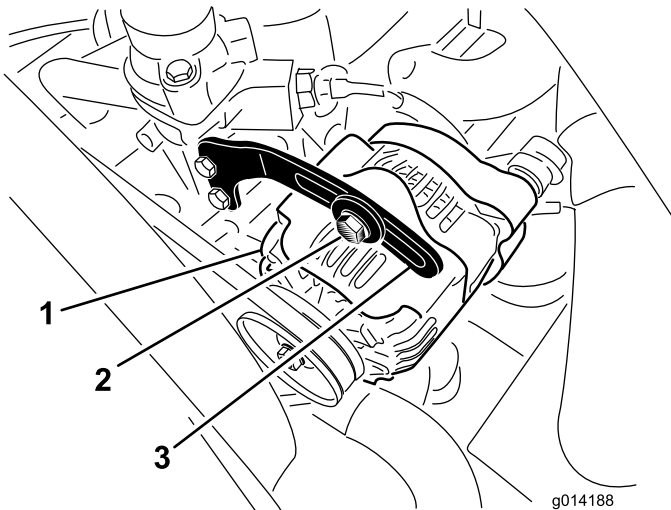

Figure 45
2. Check the tension of the alternator belt by depressing it (Figure 45) midway between the alternator and the crankshaft pulleys with 10 kg (22 lb) of force.
3. Loosen the bolt securing the brace to the alternator (Figure 45), and the alternator pivot bolt.